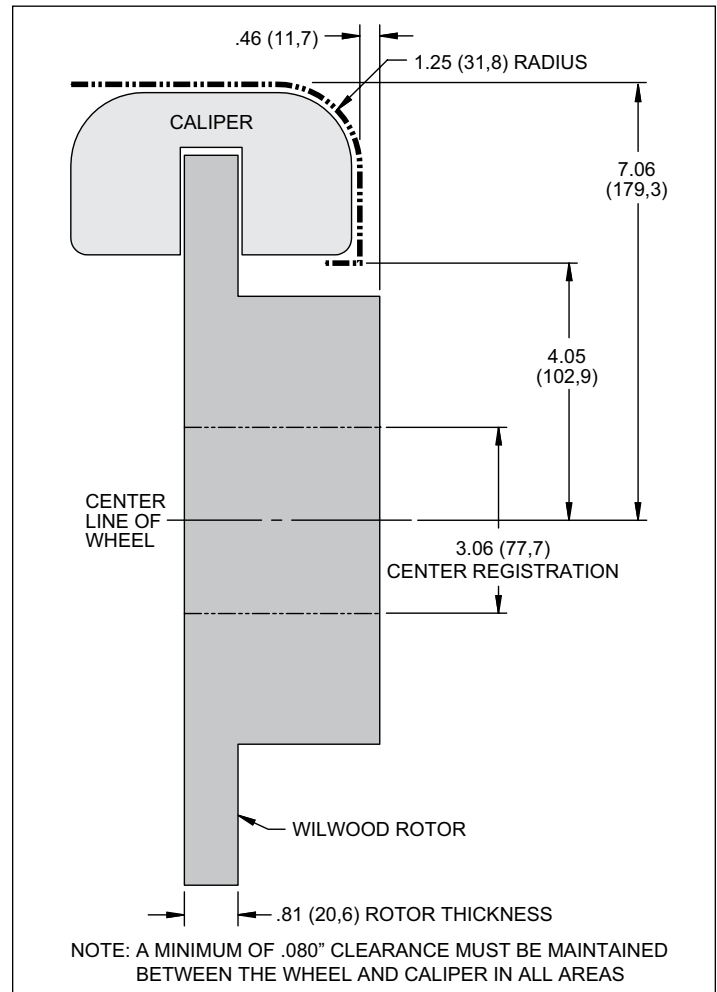

Figure 4. Wheel Clearance Diagram
- Review the wheel clearance diagram (Figure 4, page 3) to verify that there is adequate clearance with the wheels you will be using with the installation.
- Verify your wheel clearance using Figure 4.